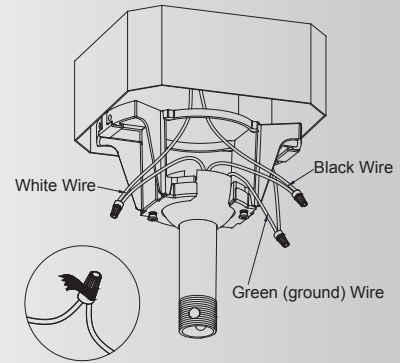

Fig. 12
**Step 1.** Connect the GREEN grounding leads to the grounding conductor of supply (this may be a bare wire or wire with green colored insulation). Securely connect wires with wire connector supplied. (Fig. 12)
**Step 2.** Securely connect the fan WHITE wire to the supply WHITE wire using wire connector supplied. Securely connect the fan BLACK wire to the supply BLACK wire using wire connector supplied. (Fig. 12)